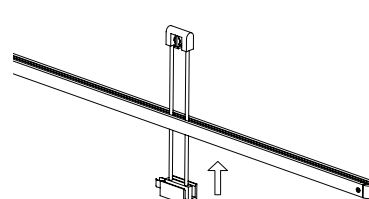

Fig. 5
4. Attach the second Power Bar the same way as for the Parallel Power Bar Hanger. (Fig. 5)